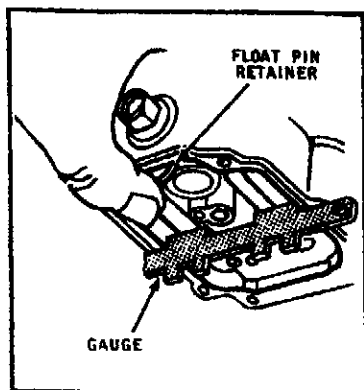

FIGURE 1
- E. Make certain float pin retainer (21) has sufficient curvature to hold float pin and arm (22 and 23) at bottom of guide slot when air horn assembly (14) is installed. An incorrect fuel level within carburetor bowl will result if pin is free to move.
A. Float Level: (Fig. 1)